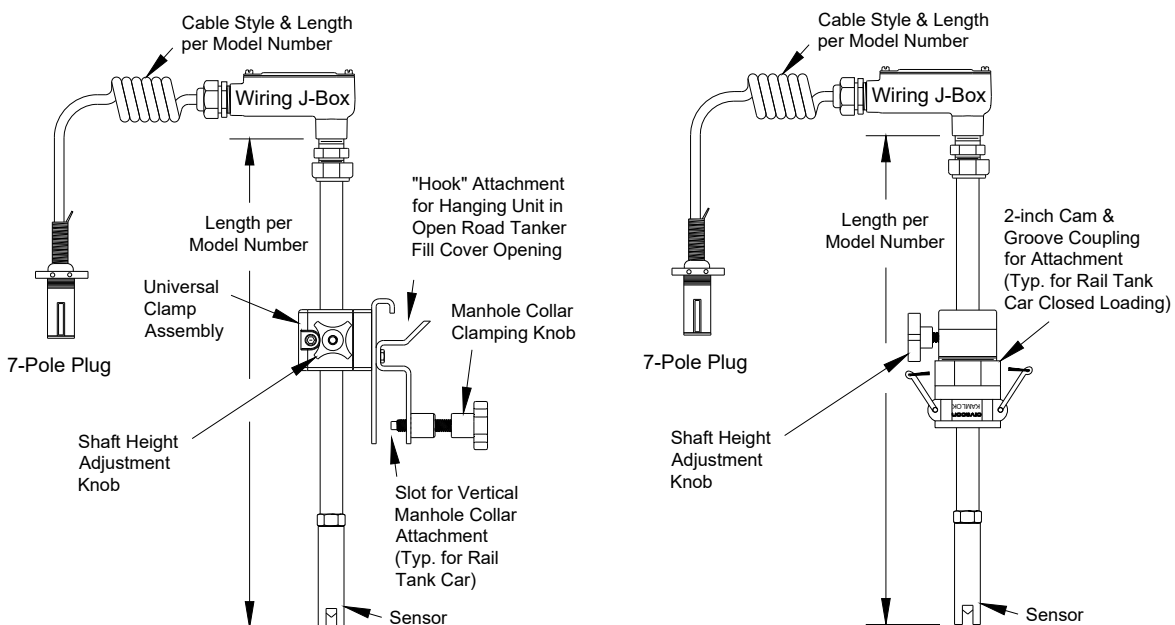

FIGURE 2 – Models 1400RHS (left) and 1400RKMLS (right) – Stainless Steel Wetted Materials
1.2 1400RHS Series Models (with Stainless Steel Wetted Materials) – Per Figure 2